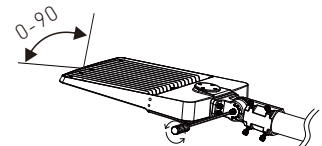

Figure 1-4
Step4: If the installation angle of the fixture needs to be adjusted, loosen the screws of the bracket, and fix them again after finished adjustment, Figure 1-4;